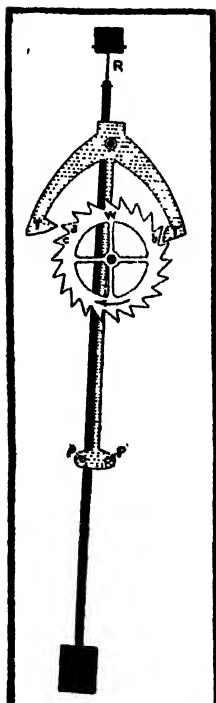

FIG. 218.—How the pendulum regulates a clock.
The pendulum of a clock is usually hung on a very thin ribbon of spring steel (R). As it swings back and forward, it bears against two pins P and P'. The crutch (shaded in Fig. 218) which is pivoted at the top therefore swings backwards and forwards with the pendulum. The crutch carries two pallets, 'T, T'', which engage with the teeth of a ratchet wheel W. This wheel is geared to the train of wheels by which the weights drive the hands. *The hands cannot move unless the ratchet wheel moves too.* In
Fig. 218 the pendulum is not quite yet at the left hand end of its swing. The pallet T has just released the tooth *a*: the drive of the clock makes the wheel fly on until the tooth *b* strikes against the pallet T'. The pendulum finishes its stroke and so pushes *b* back a little in an anti-clockwise direction. This can often be seen in old clocks: in these the second hands visibly recoil at the end of each pendulum swing. The pendulum now starts back to the right. The tooth *b* as it goes back to the position from which it recoiled gives the pendulum a push and it is this push which provides the power that keeps it swinging. The pendulum now travels over to the right and just as tooth *b* has almost escaped from pallet T', pallet T comes in and engages tooth C. This will not be released again till the pendulum gets back to the left hand end of its swing. It is clear now that the escapement wheel can move only one tooth for each double journey of the pendulum. If the pendulum is regulated, as is usual, so that the double swing takes one second, the escapement wheel, which has 60 teeth, will get round once in a minute. (Fig. 218 shows only 30 teeth—for simplicity.) In this case, the escapement wheel may be attached directly to the second hand, the other gears being arranged so that the minute hand goes sixty times more slowly, and the hour hand twelve times slower still.